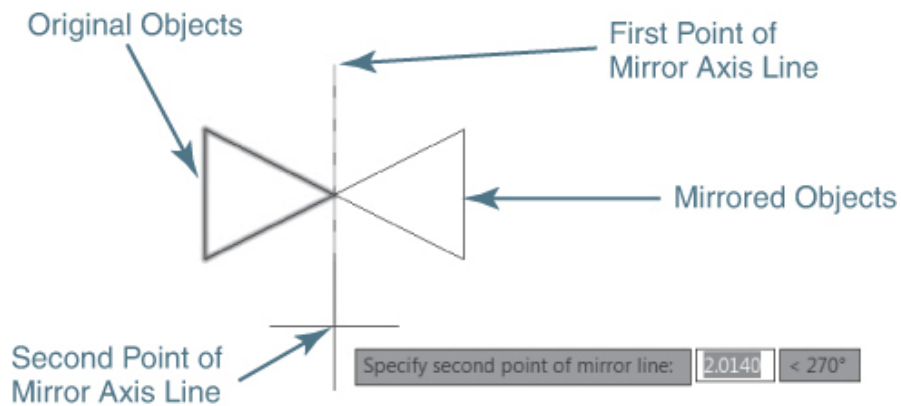

Figure 7-28
After you start the **MIRROR** command and select something, AutoCAD prompts you to specify the two endpoints of a line about which to mirror the selected objects as shown in Figure 7-28, while maintaining a ghost image of the original objects and displaying a preview of the mirrored objects.
- 3** Draw a triangle similar to the one shown in Figure 7-28.
- 5** Pick a point above the right side vertex as shown in Figure 7-28. AutoCAD prompts you to *Specify second point of mirror line:*.
- 7** Pick a point directly below the first point at 270° using the **Ortho Mode** drawing tool as shown in Figure 7-28. AutoCAD mirrors the triangle and prompts *Erase source objects?* ↓.